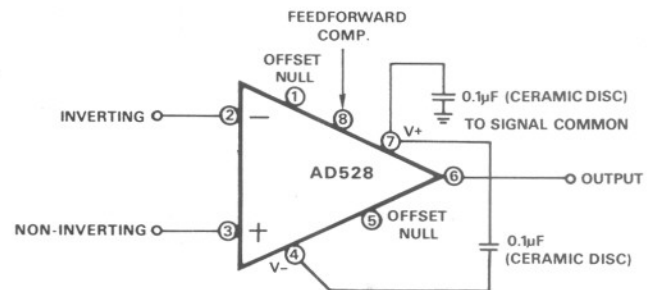

Figure 3. General Purpose Connection Diagram
**Connecting the AD528.** The connection scheme employed when using the AD528 is considerably more important than for low frequency, general purpose amplifiers. The primary purpose of the 0.1μF bypass capacitors shown in Figure 3 is to convert the distributed high frequency ground to a